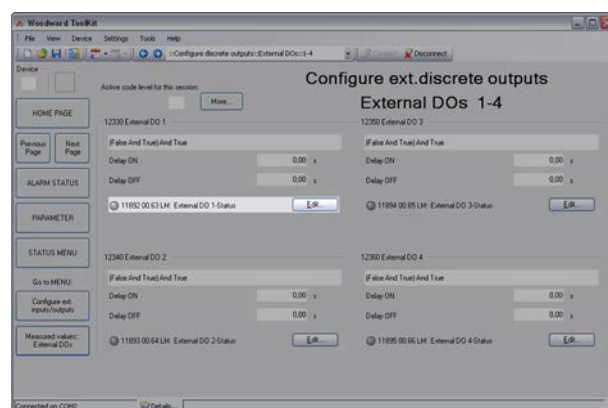

Fig. 241: Setup of external DOs
1. ➤ Set up the external discrete outputs using the ToolKit screen shown in (Fig. 241).